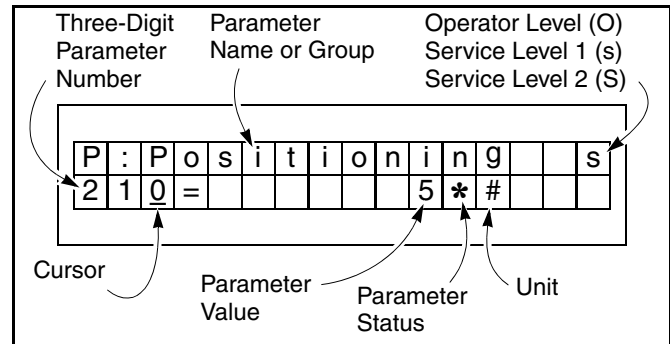

Figure 23
- Pressing the enter (●) key saves the displayed value. (Note: If the enter (●) key is not held down long enough, the display will return to the previously saved setting.) A checkmark next to the displayed value indicates the currently saved value. An asterisk next to the displayed value indicates a value that is not saved. (See Figure 23.)